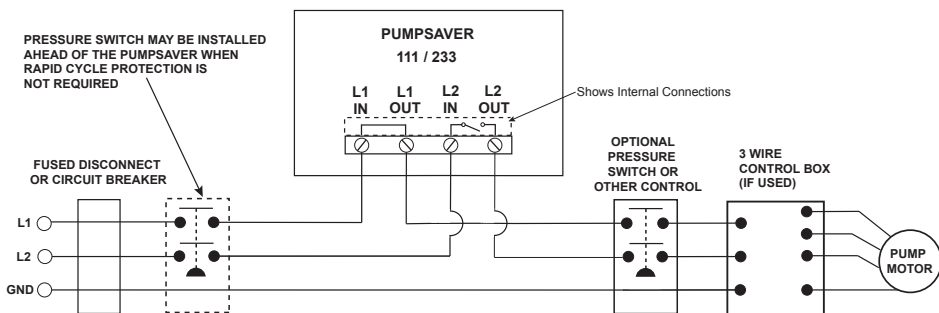

Figure No. 1: Typical Wiring Diagram for Models 111 and 233
2. Connect one line from the fused disconnect to the PumpSaver's "L1 IN" terminal. Run a wire from the "L1 OUT" terminal to the other in-line controls such as a pressure switch. See Figure No. 1.
3. Connect the other line from the fused disconnect to PumpSaver's "L2 IN" terminal. Run a wire from the "L2 OUT" terminal to the other in-line controls such as pressure or float switches. See Figure No. 1.
4. See Figure No. 1 for Electrical diagram. See Figure No. 2 for Mechanical wiring diagram for standard 3 wire control boxes. See Figure No. 3 for Mechanical wiring diagram for Deluxe control boxes. See Figure No. 4 for Mechanical wiring diagram for direct feed of 2-wire pumps.